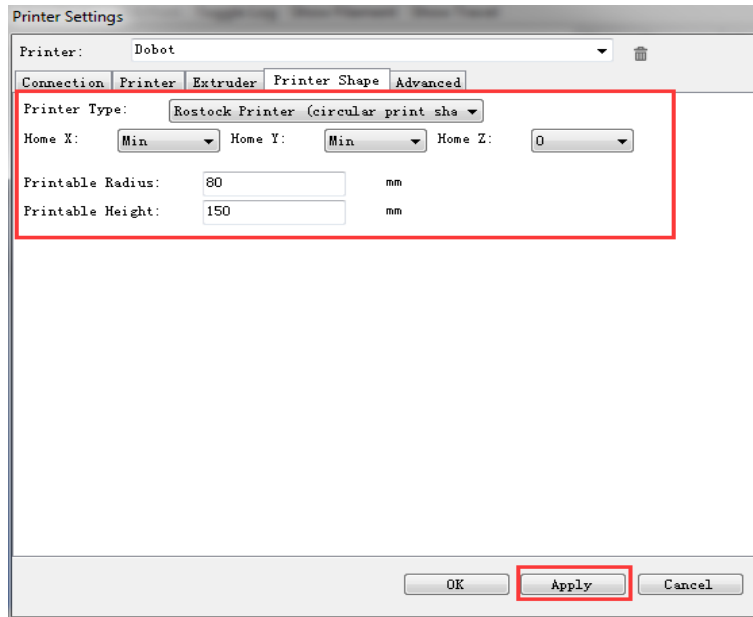

Figure 5.90 Printer shape settings
5. Set the corresponding parameters on the Printer Shape tab as shown in the red box of Figure 5.90, and the other parameters are set by default. Then click **Apply**.